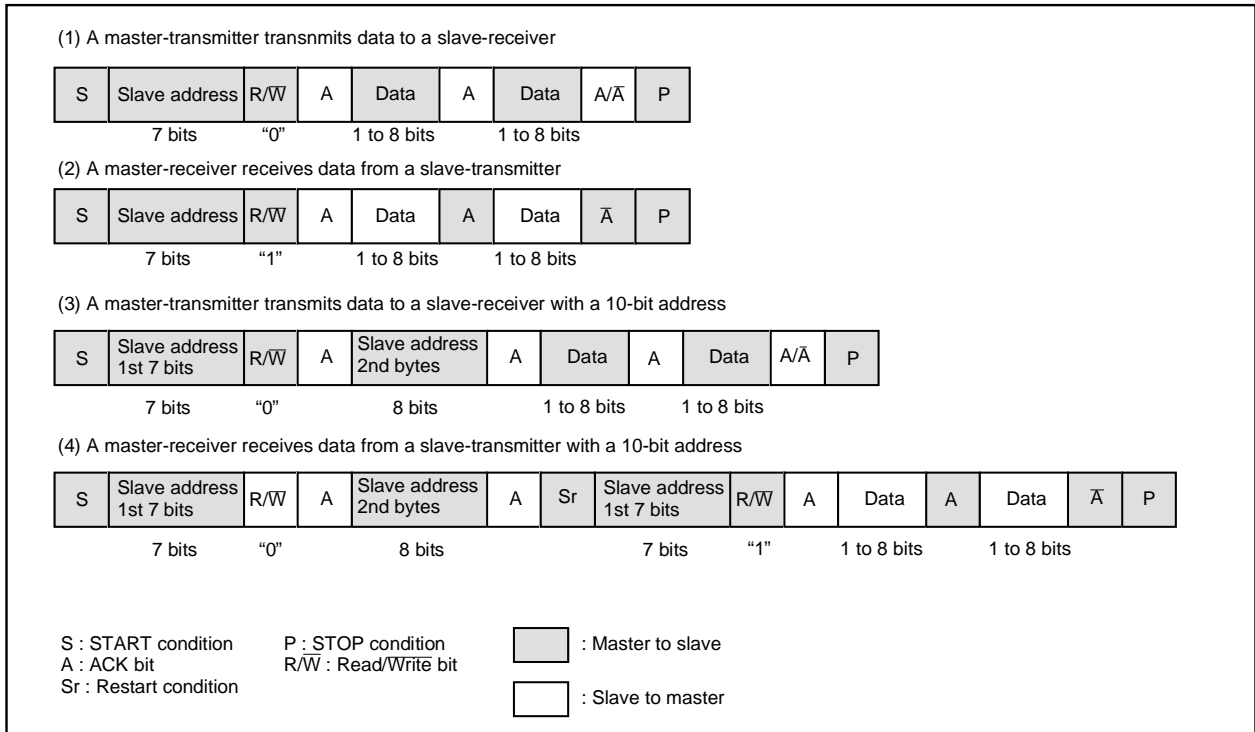

Fig. 39 Address data communication format
(1) 7-bit addressing format
To adapt the 7-bit addressing format, set the 10BIT SAD bit of the I²C control register (address 002E₁₆) to "0". The first 7-bit address data transmitted from the master is compared with the high-order 7-bit slave address stored in the I²C address register (address 002C₁₆). At the time of this comparison, address comparison of the RWB bit of the I²C address register (address 002C₁₆) is not performed. For the data transmission format when the 7-bit addressing format is selected, refer to Figure 39, (1) and (2).
(2) 10-bit addressing format
When the first-byte address data agree with the slave address, the AAS bit of the I²C status register (address 002D₁₆) is set to "1". After the second-byte address data is stored into the I²C data shift register (address 002B₁₆), perform an address comparison between the second-byte data and the slave address by software. When the address data of the 2 bytes agree with the slave address, set the RWB bit of the I²C address register (address 002C₁₆) to "1" by software. This processing can make the 7-bit slave address and R/\bar{W} data agree, which are received after a RESTART condition is detected, with the value of the I²C address register (address 002C₁₆). For the data transmission format when the 10-bit addressing format is selected, refer to Figure 39, (3) and (4).